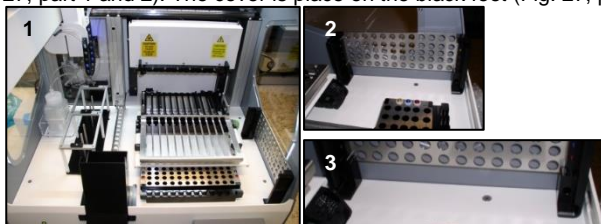

Fig. 27: Interior of the instrument for UV decontamination of the column rack and safety cover.
- Replace all racks to the instrument. Place the column rack to the right side of the pipette tip holder for UV cleaning (Fig. 27, part 1).
Place the cleaned safety cover of the reagent vial rack on the right side of the instrument. The back side of the cover is face in the inside of the instrument (Fig. 27, part 1 and 2). The cover is place on the black feet (Fig. 27, part 2).